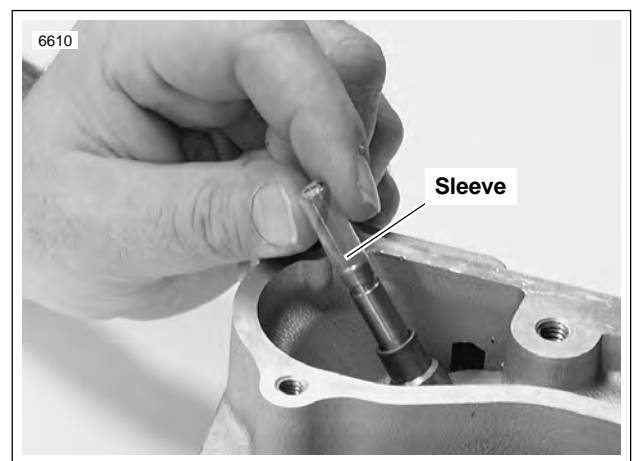

Figure 3-62. Valve Guide Seal Protector Sleeve
6. See Figure 3-62. Place a protective sleeve over the valve stem keeper groove. Coat the sleeve with oil and place a new seal over the valve stem.
8. See Figure 3-62. Install valve springs and upper collar.